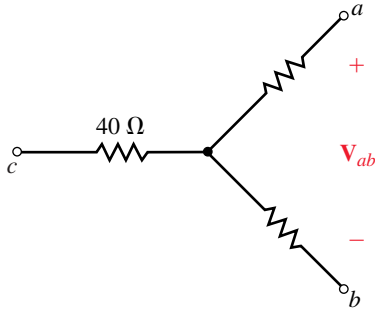

FIGURE 23-50
32. For the balanced load of Figure 23-50, $V_{ab} = 600 \text{ V}$. Determine per phase and total active, reactive, and apparent power.